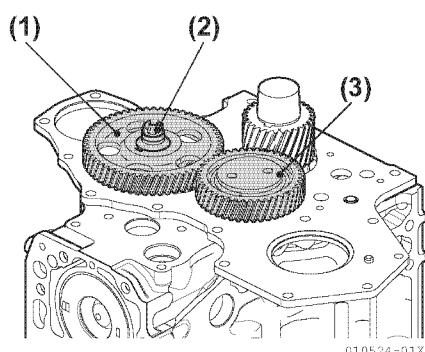

Figure 5-48
42. Loosen the three bolts holding the idle gear and pull out the idle gear and shaft (Figure 5-48).